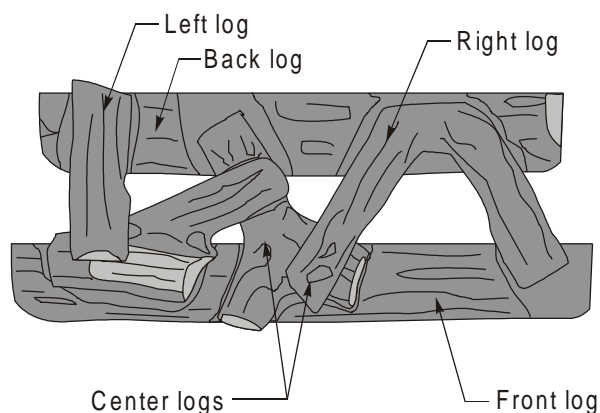
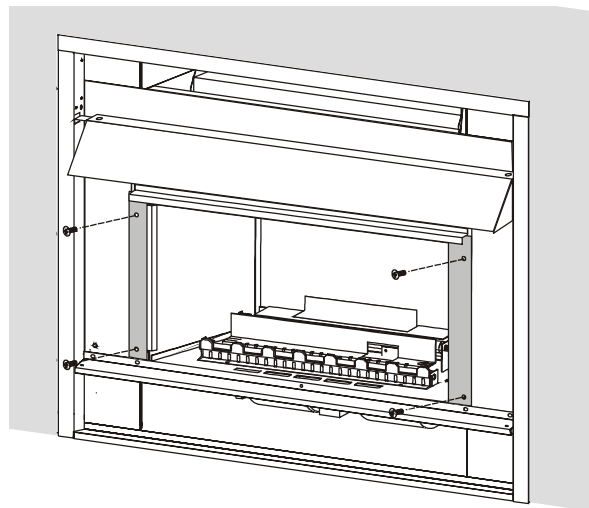

Figure 8b. Proper top log placement (top view).
Figure 23. *Removing and installing the glass door.*
Place the top logs in position as shown in figures 8b and 8c.
14. Remove the glass door as shown in Figure 23. Remove the plastic shipping ties and padding from the two bottom logs. Install the top logs as shown in Figure 8b and 8c. Re-install the door.